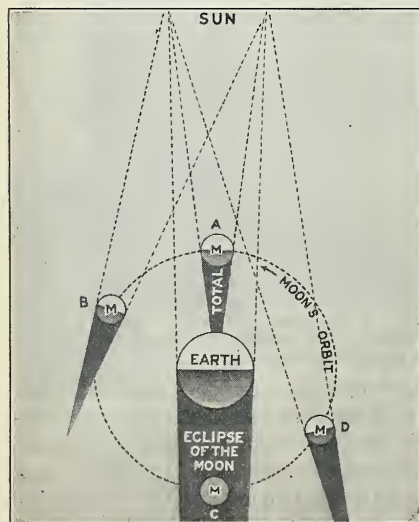

Fig. 560. When does an eclipse of the moon occur? an eclipse of the sun?
*Directions and observations:* Set up the apparatus similar to the arrangement in Figure 560. Darken the room. 1. Pass the moon suspended on a string between the earth and the sun so that the moon's shadow falls on the earth. What body disappears from view (is eclipsed) as seen from the earth? What is the shape of the moon's shadow as it moves across the earth? 2. Pass the moon on the side of the earth opposite the sun so that the moon goes completely into the shadow of the earth. What body is eclipsed when the earth is between the